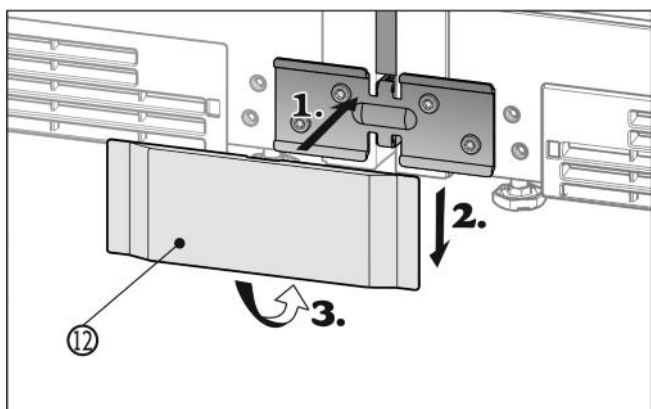

Fig. 16
- Place the bottom cover Fig. 16 (12) onto the bracket from the front (1), slide it down (2) and snap it in at the bottom (3).